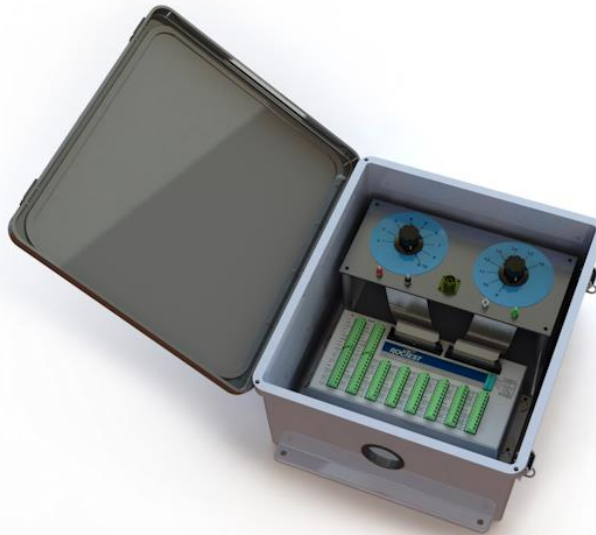

Figure 8: RT-MUX WITH MANUAL SWITCHING PANEL ENCLOSURE
- The enclosure with the Manual Switching Panel. See Figure 8.